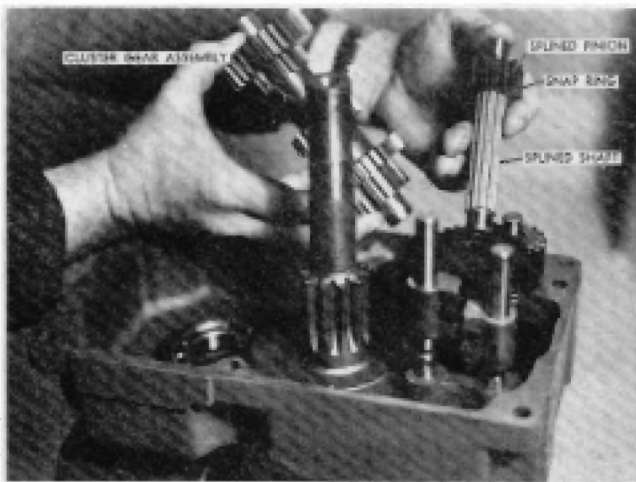

FIGURE 5
11. Remove the splined pinion shaft and gear. At the same time the cluster gear assembly may be removed. See Figure 5.